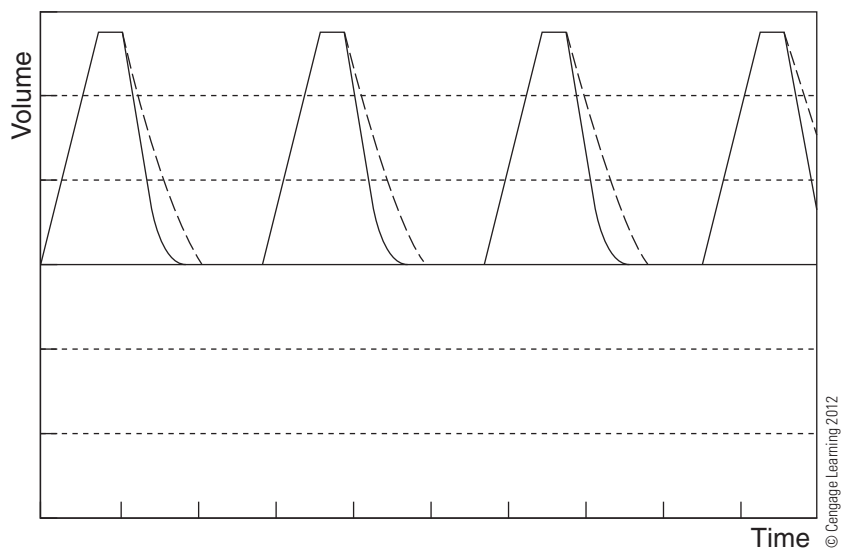

Figure 3-2 Increased Resistance
- Figure 3-2** Increased Resistance